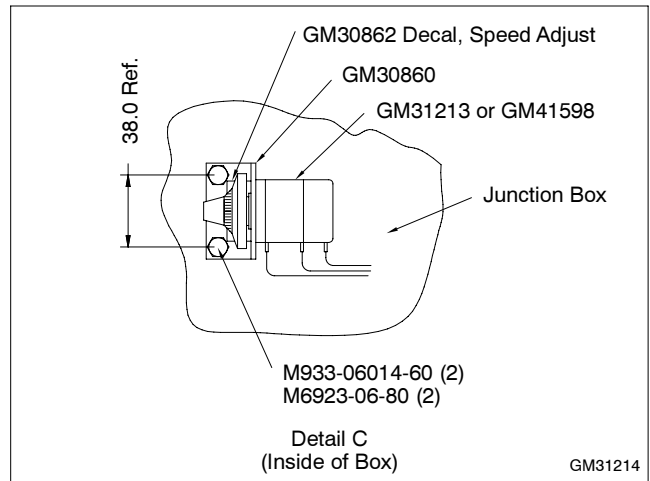

Figure 6 Remote Speed Potentiometer and Bracket
- 2.6 Attach the bracket (GM30860) to the inside of the junction box using two screws (M933-06014-60) and nuts (M6923-06-80) as shown in Figure 6. Mount the bracket so the decal side of the bracket is facing toward the user.